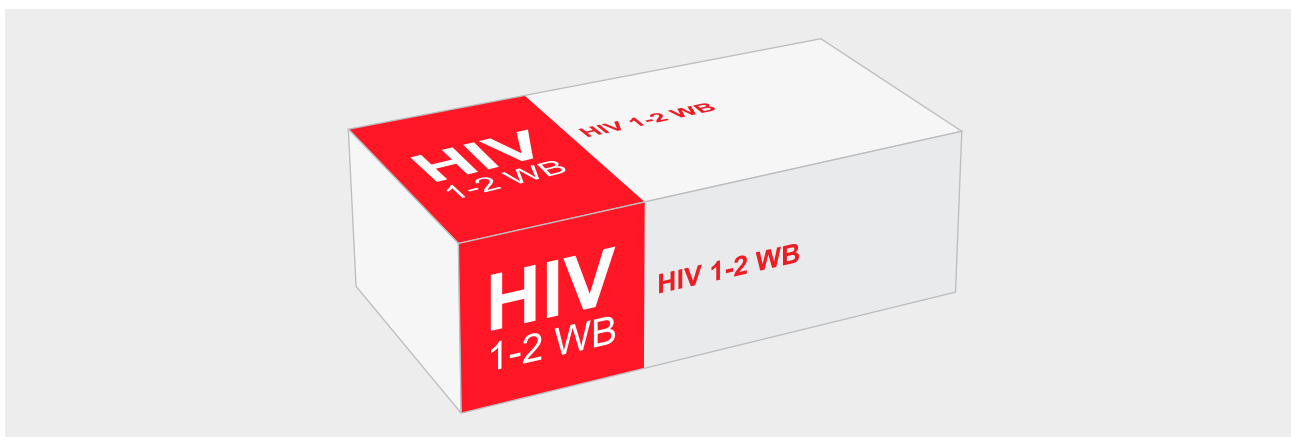

Figure 1: Secondary packaging of WBFPT
Measure three dimensions of the carton: length (L), width (W) and height (H), illustrated in Figure 1.